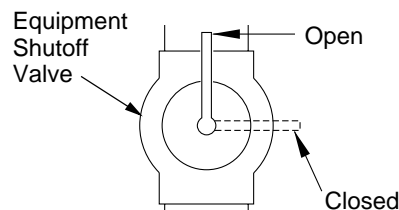

Figure 21 - Equipment Shutoff Valve
- Close equipment shutoff valve (see Figure 21).
- Open equipment shutoff valve (see Figure 21).